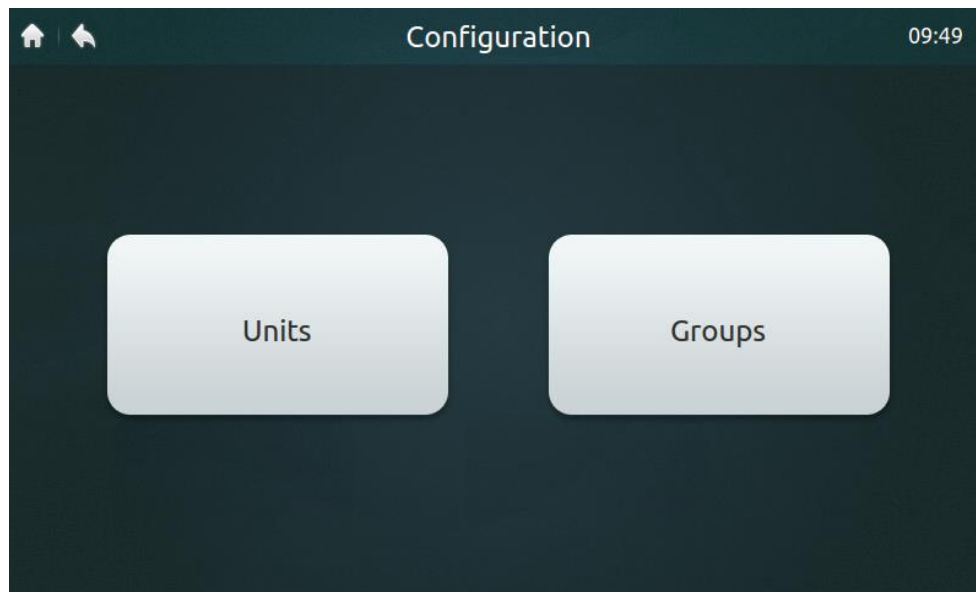
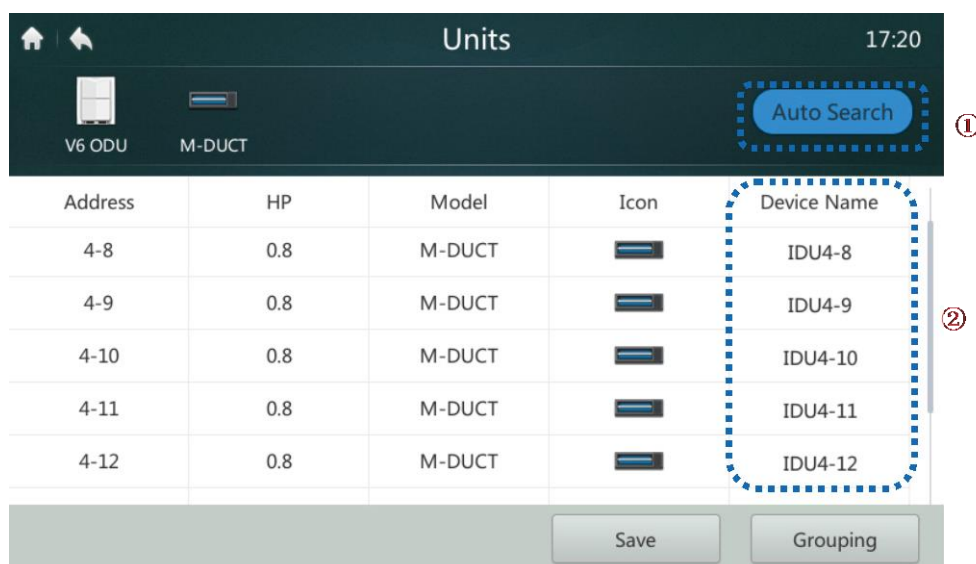
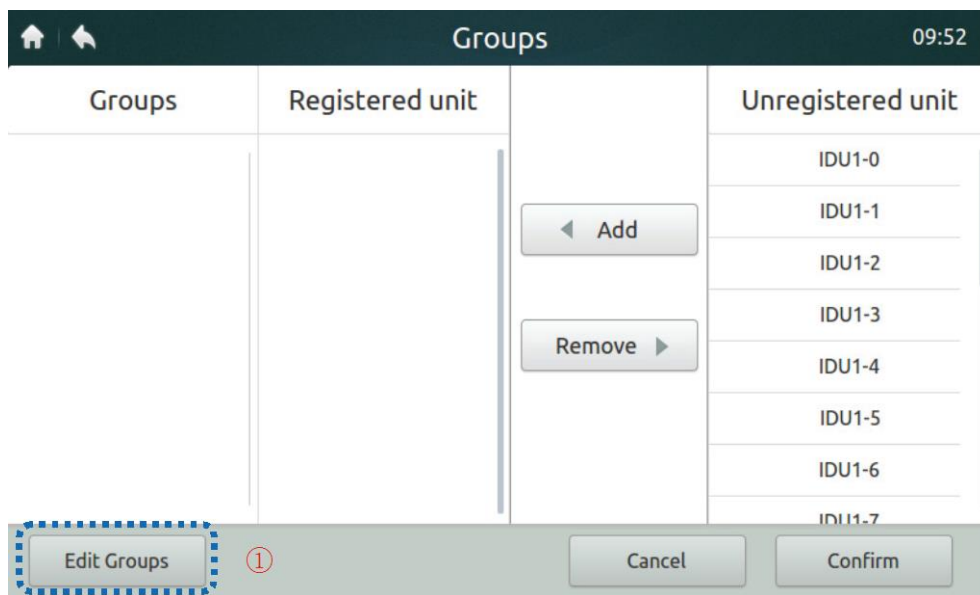
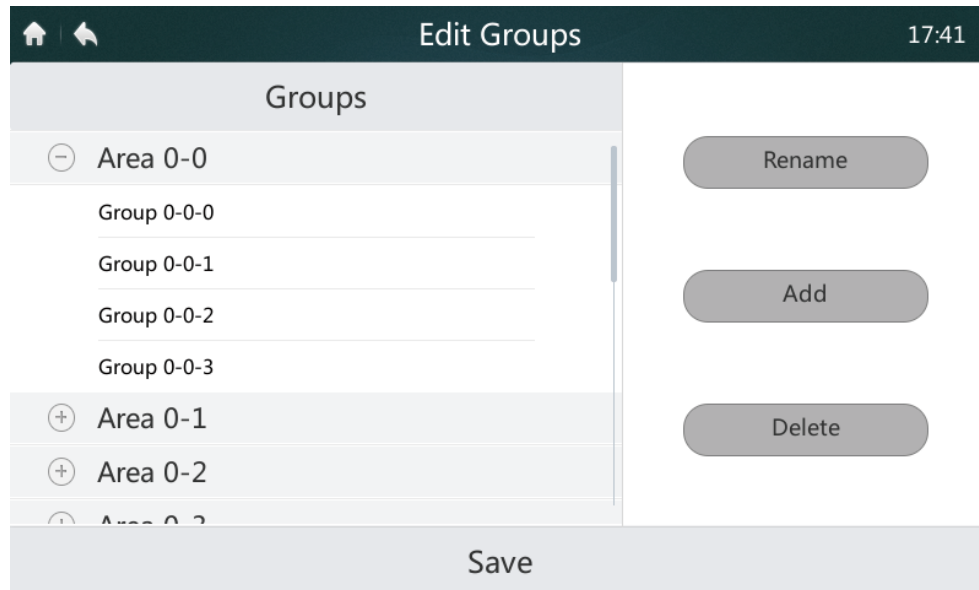

Figure 35 Homepage of Installation interface
Figure 36 Device installation page
Figure 38 Homepage 1 of Group View page
Figure 39 Editing a group
1. Tap the "Units" button, as shown in Figure 35, to enter the interface, as shown in Figure 36.
2. Tap the "Auto Search" button marked "1" in Figure 36. The connected device will be displayed on the interface. The table displays the IDU HP, IDU type (the correct type can be displayed correctly for second-generation IDUs only. Other types are first-generation IDUs), type icon (the correct type can be displayed correctly for the second-generation IDUs only. The Four-way Cassette icon is displayed for other units), and device name.
3. The default device name is "IDU + ODU network address-IDU address". The user can rename a device. Tap the area marked "2" in Figure 36 to display the input keyboard in the lower part of the screen, as shown below. Edit the device name of the corresponding address, and tap "Confirm".
1. Tap the "Groups" button marked "2" in Figure 35 to access the group view page in Figure 38. Figure 38 shows the interface where no groups are created.
- First create a group. Tap the "Edit Groups" button marked "1" in Figure 38 to access the interface shown in Figure 39.
- Groups can be classified into two levels (e.g.: level 1 - Area; level 2 - Group). Up to 10 groups can be created at level 1. Up to 5 groups can be created at level 2. Tap the **"Add"** button, as shown in Figure 38, to add the first level group by default. Tap to select the first level Area. Tap the **"Add"** button to add the second level group. To delete a group, select this group, and tap "Delete".
- Select a group and tap **"Rename"**, as shown in Figure 39, to edit the selected group name.
- Tap the **"Save"** button, as shown in the lower part of Figure 39, to save the edited information.